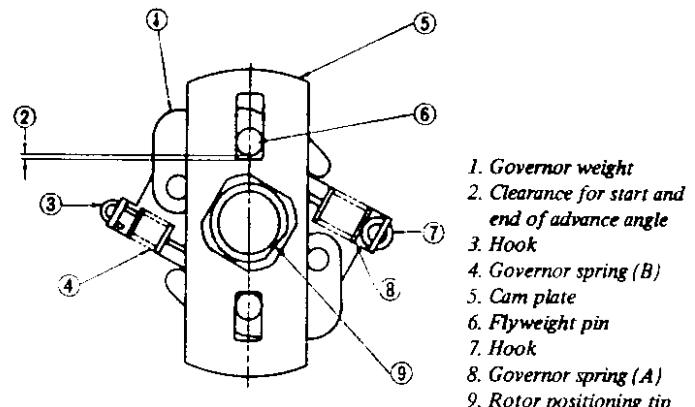

Fig. C.8 Centrifugal advance mechanism.
If the centrifugal advance mechanism has been dismantled the governor springs and cams must be refitted as shown in Fig.C.8. The governor weight pin (6) should be fitted into the longer of the two slots, leaving a certain amount of clearance for the start and end of the centrifugal advance movement.